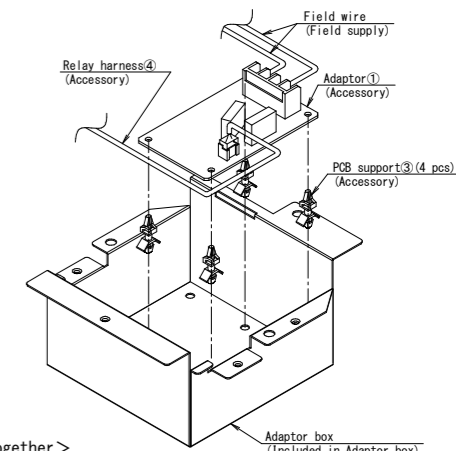

Figure 1
- (1) Connect the Relay harness④ and field wires to the Adaptor①.
- (2) Mount the Adaptor① on the Adaptor box with the PCB supports③ attached to this Adaptor. (Figure 1)